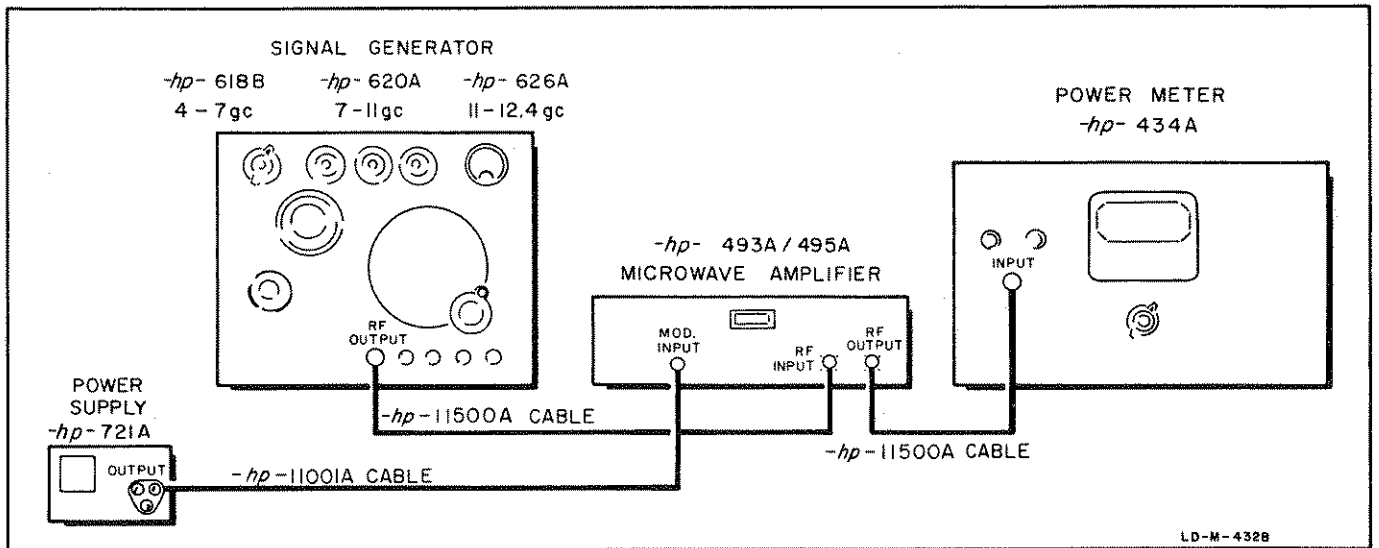

Figure 5-8. Modulator On-Off Ratio
- a. Set up the Model 493A as shown in figure 5-8 (power supply power off). Signal generator set up for a 1 mw output at microwave amplifier low power point.
a. Connect the Model 493A as shown in figure 5-8, with the signal generator and the power meter at the same setting as those in paragraph 5-36 steps c and d.